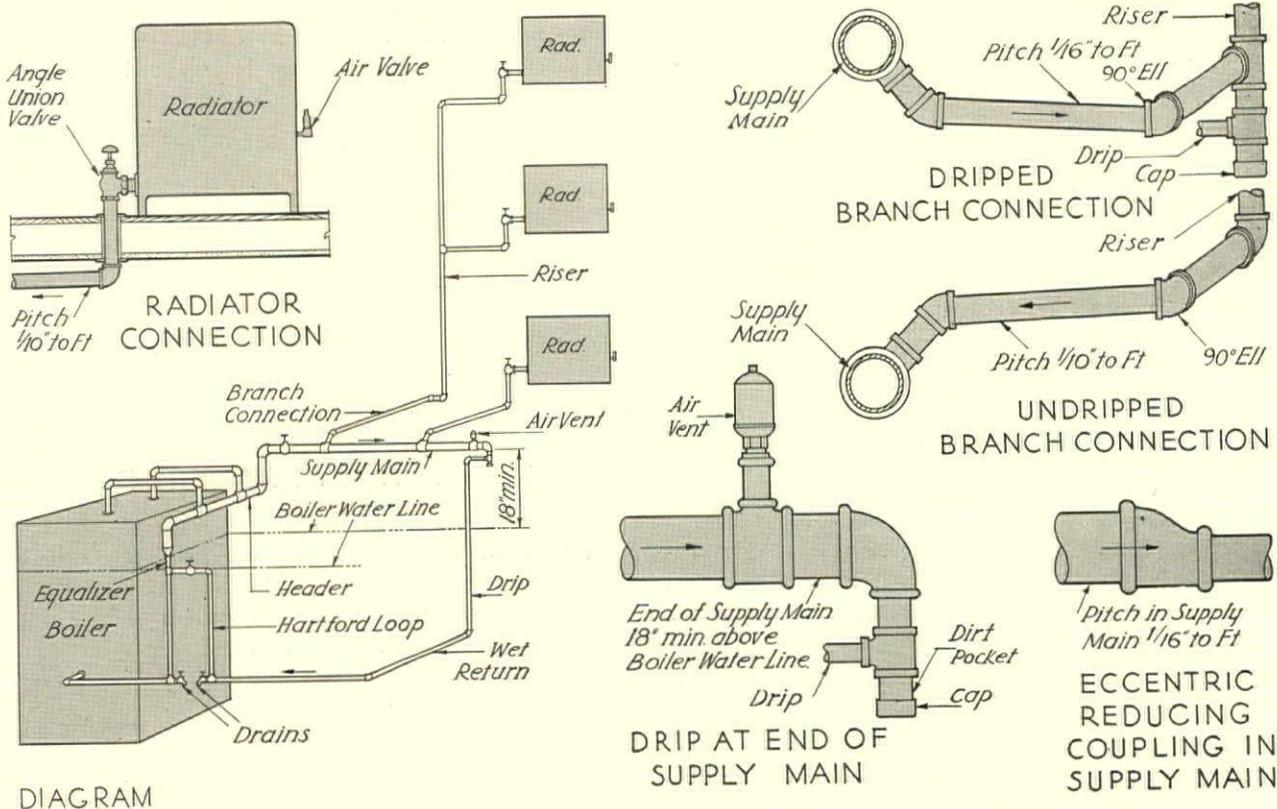

FIG. 1. DETAILS OF ONE-PIPE STEAM HEATING SYSTEMS
**Elements** of one-pipe steam systems are: a steam boiler, steam-type radiators or convectors in each room, one or more steam mains forming continuous loops pitched from a high point above the boiler outlet to a low point at the boiler return, and single branch pipes connecting each radiator or convector with one or another of the mains. The branches are pitched sharply from radiators to mains so that condensation will drain back to the loop *against* the steam flow. Each radiator must be equipped with an air vent valve which will permit the steam to drive out any air in the system without letting steam or water escape. See Fig. 1.
**Elements** are identical with one-pipe steam systems, except that vacuum-type air vent valves are used on all radiators and at high points in the return lines. These valves permit air to be discharged by steam, but prevent or retard its re-entry into the system for several hours. This action develops a vacuum condition within the system, amounting to about 15 inches of mercury shortly after the fire is checked. Under this vacuum, generation of steam continues for a period, but at lower temperature than steam at or above atmospheric pressure. It is essential that the system be tight at all joints and connections and that radiator valves be of the packless type or else made air tight by very heavy packing. Piping may be up-feed or down-feed as in one-pipe steam systems. See Figs. 1 and 5.